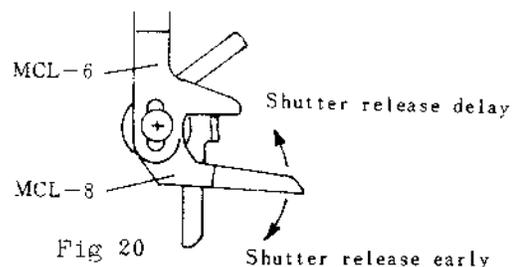

Fig 20
- d) R-Mg Hook is engaged with MCL-2 when release the R-Mg (R-Mg Hook should release the MCL-2) and release the ACL-1 Ass'y and QRL-5 Ass'y by pushing the MCL-6 (Fig 20).
- o Adjust Shutter release position by bending MCL-8 as shown in (Fig 20).